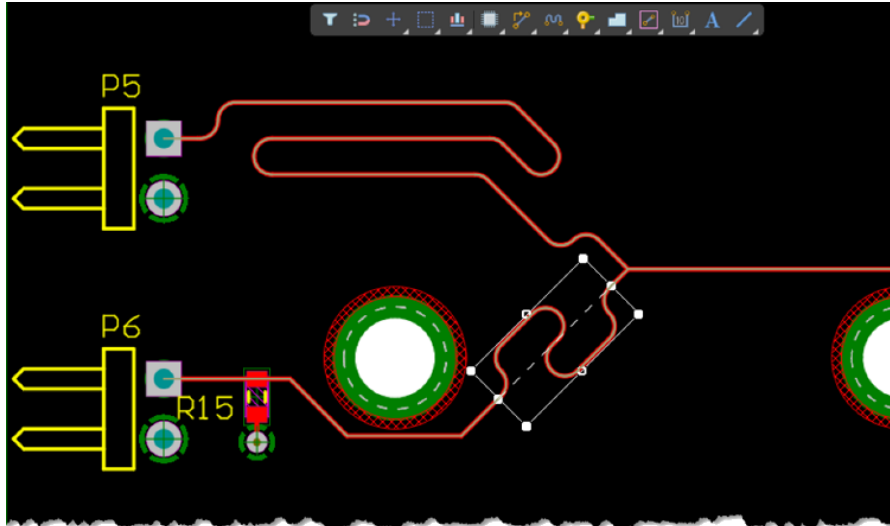

Figure 30. First Trombone for Signal Path P6
78. Use the Length Tuning command again to tune the signal path for P6, to the right of the board cutout, as shown in Figure 30. The Signal Path will be still too short, but we will change that with the next steps.